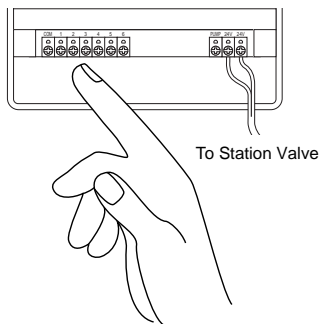

FIGURE 23: Connecting Valve Wires
- It may be necessary to open the terminal to allow for wire insertion or removal. To do this, simply press upward on the tab located on top of the terminal [See Figure 23].
- Connect the common wire to the terminal labeled **COM** [See Figure 23].